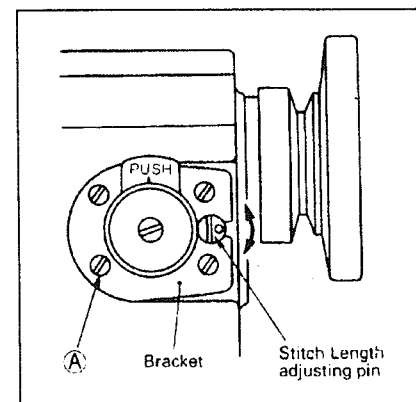

Fig.27
27、 Adjustment of stitch length and forward/backward sewing (Fig.27):